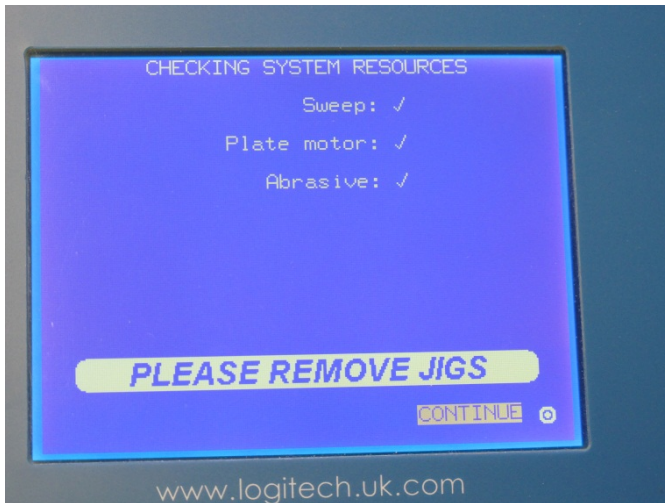

Figure 2
3. **Checking system** (Fig. 2) screen will appear. Press **ok** to continue.